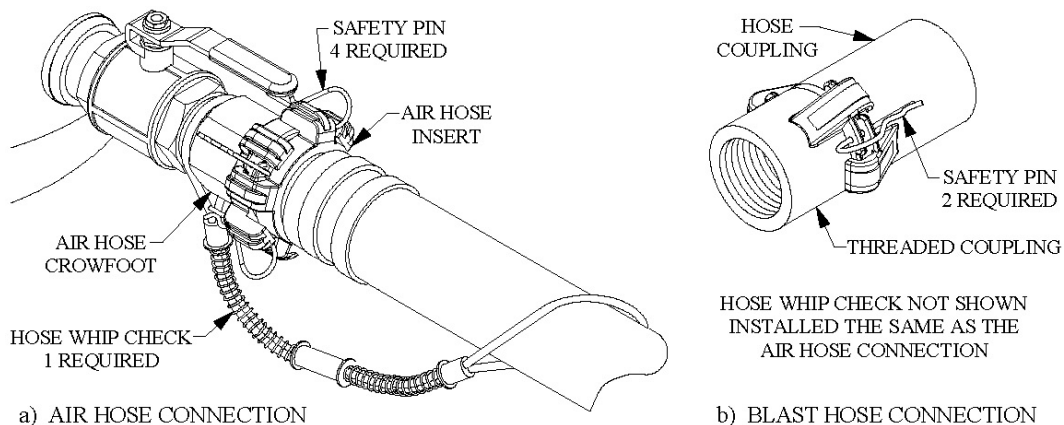

Figure 8.3 – Hose Connection Disconnect Protection
8.7. **Blast and Air Hoses:** All air hose, blast hose, and threaded couplings have pin holes that align when connected. To protect against accidental hose disconnections safety pins must be installed through these holes. Each hose connection must also include a hose whip check that will hold the hose if there is an accidental disconnection. Connect one loop to each side of the connection and stretch out as shown in Figure 8.3 below. Check hose connections daily and replace missing or damaged pins and whip checks.